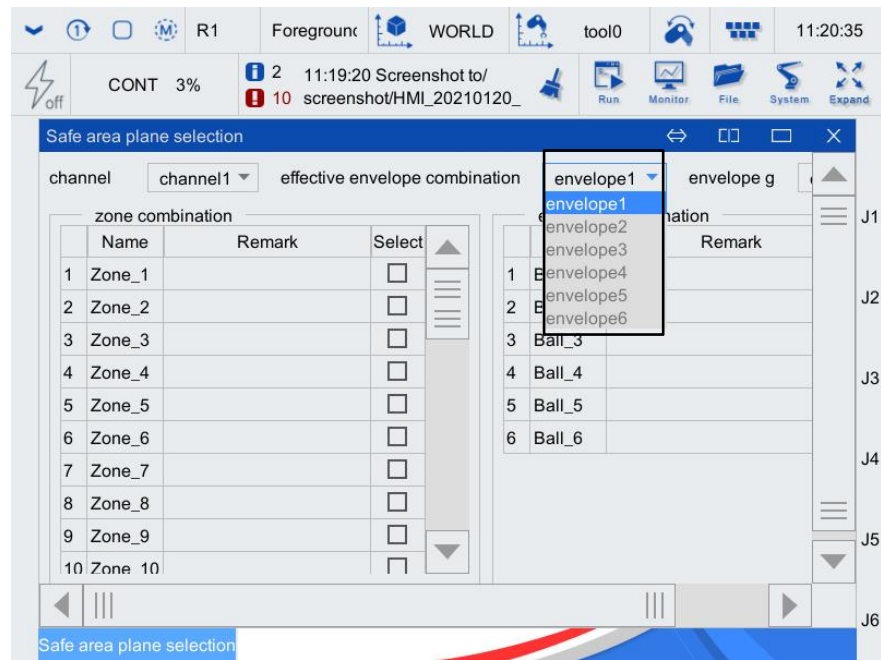

Figure 6-44 Toggle [effective envelope combination]
**Step5.** After the [Envelope g] is set, you can switch [effective envelope combination] to determine which group of envelopes to use (refer to Figure 6-44).